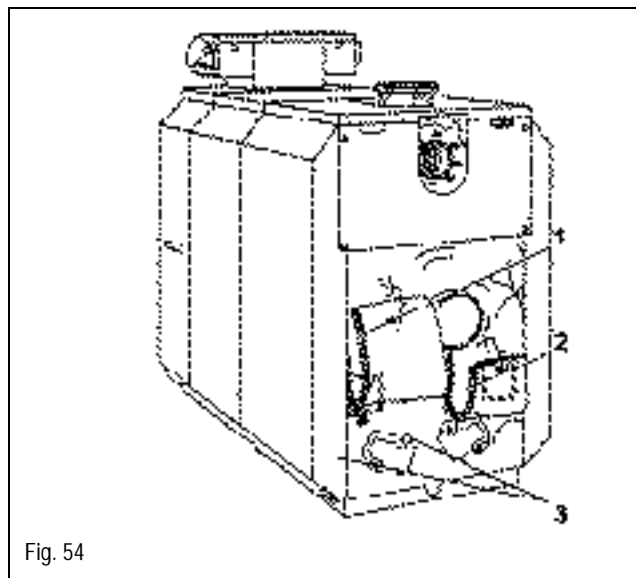

Fig. 54
- Remove bottom rear panel to gain access to rear clean-out covers (Fig. 54).
- Remove clean-out covers (3) from the rear section and flue collector (Fig. 54).
- Remove combustion by-products from the front and from the flue gas collector (Fig. 54 and 56).